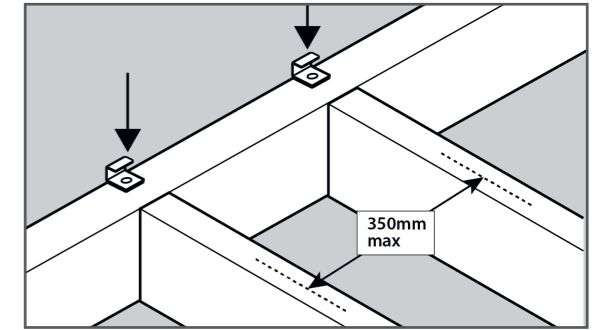

FIG. 1
- 1 Position the **deX starter clips** level with the edge of the frame, one per joist. (fig. 1)